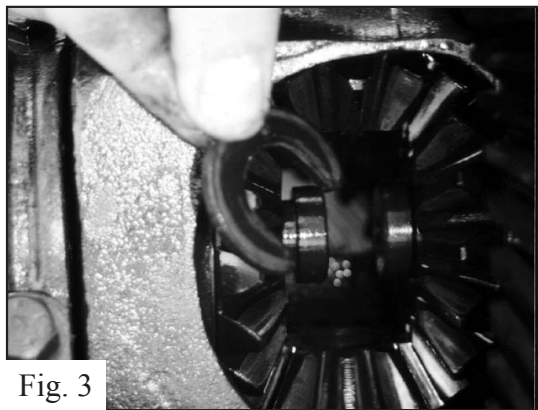

Fig. 3
6. Push the axle flange inward in order to relax the pressure on the "C" clips which secure each axle located inside the differential (figure 3).